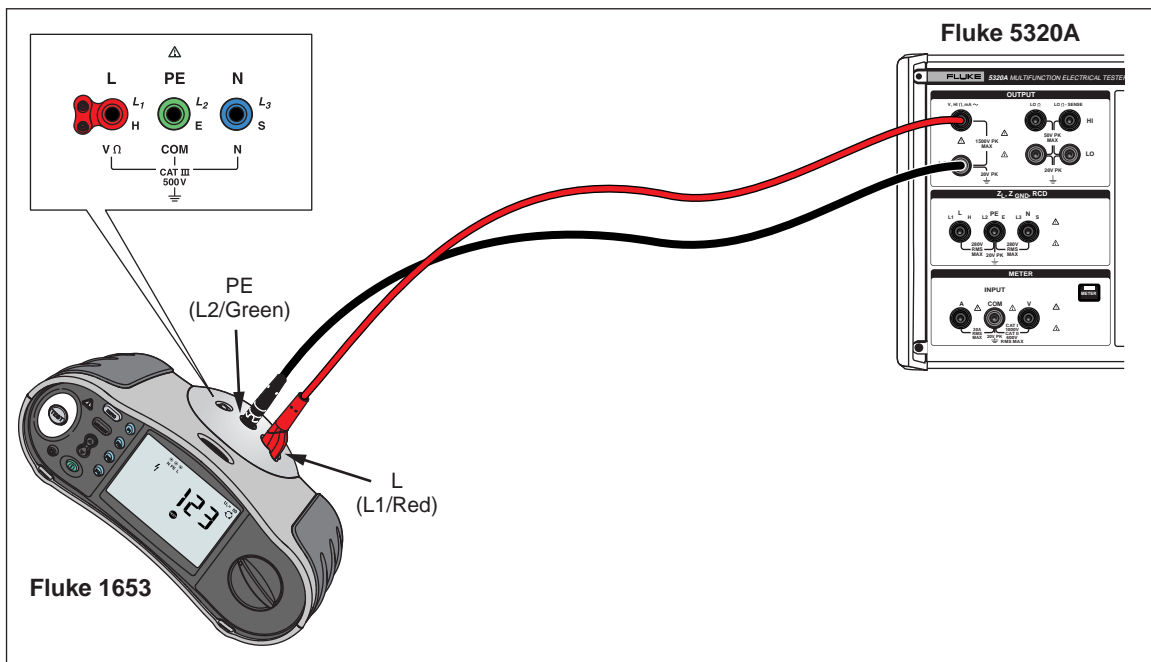

Figure 7-18. Voltage Calibration on Battery-Powered Installation Testers
1. Using Figures 7-18, 7-19, or 7-20, connect the UUT to the Calibrator's Output **V HI** and **LO** terminals.